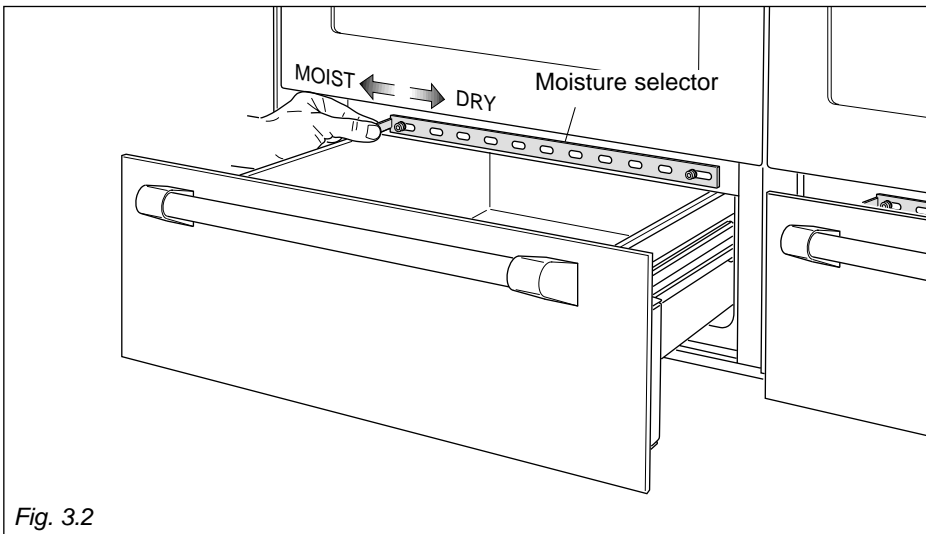

Fig. 3.2
- Slide the Moisture selector to a Moist or Dry position. Intermediate positions can be setted (fig. 3.2) (see the “MOISTURE SELECTOR” chapter).
**MOISTURE SELECTOR** (fig. 3.2)